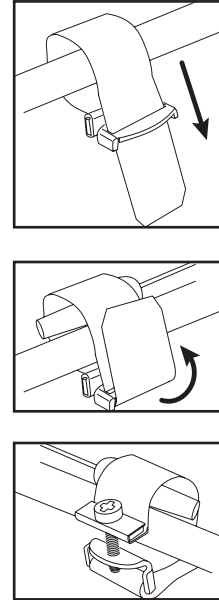
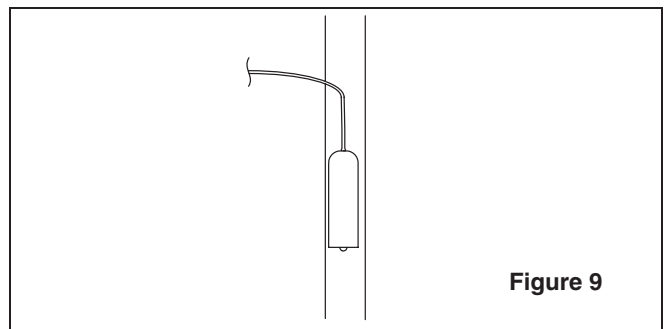

Figure 5
Figure 9
10. Use the supplied bulb strap to attach the sensing bulb onto a straight section of the refrigerant gas line. See Figure 5 for instructions on attaching the bulb strap. In some cases, the bulb strap is required when the new bulb size is different from the existing sensing bulb.
- Orient the sensing bulb with the tube exiting out the top to the vapor line extension onto a straight section of the refrigerant gas line as shown in Figure 9. Use the supplied TXV bulb strap shown in Figure 5 to secure the bulb in place. In some cases, the bulb strap is required when the new bulb size is different from the existing sensing bulb.